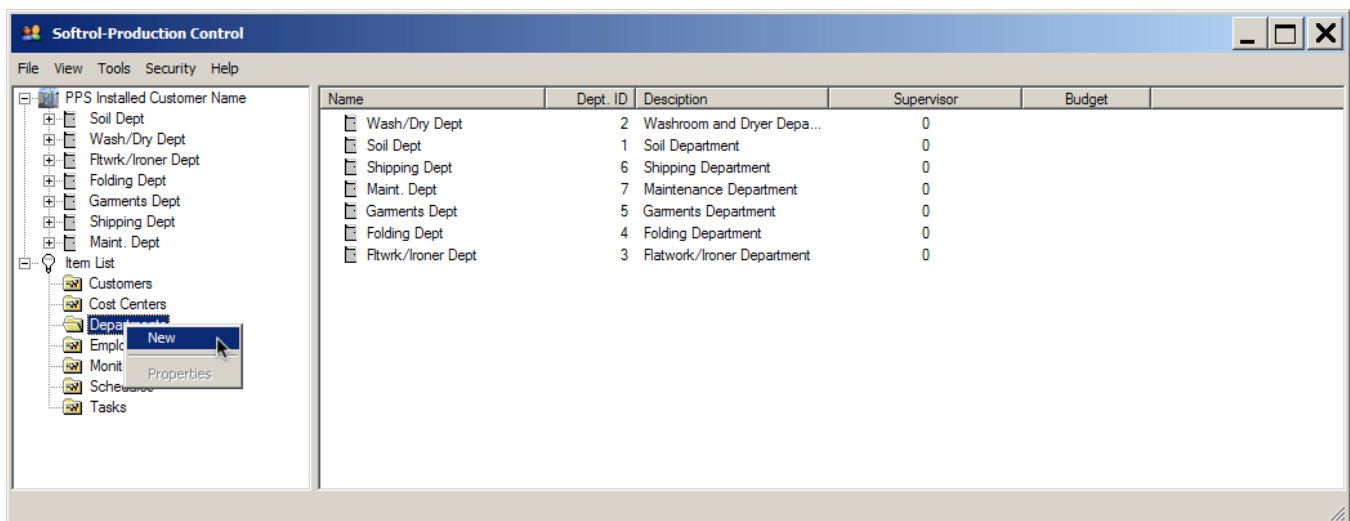

Figure 11. Setup: New Department.
2. Right-click and select **New** (See Figure 11).